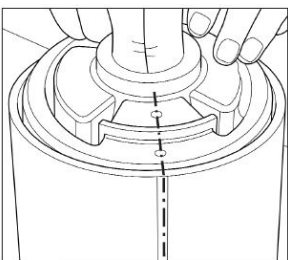

Fig 4.36
2. Insert the replacement pivot bush into the funnel "D" and align the pips on the pivot bush with the marked line on the funnel (Fig 4.36)